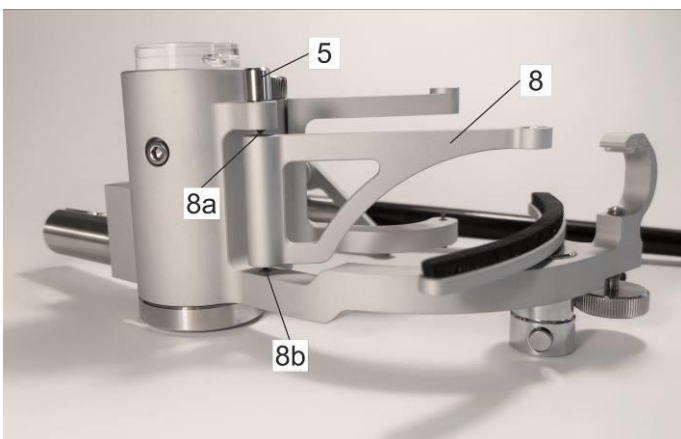

Figure 6
- h) Set the front link [8] on a bottom bearing of the front link vertical axis [8b] (Figure 6).
- i) Screw in the top bearing [5] of the front link [8] vertical axis and tighten it with your fingers without applying excessive force. **Needle of the bearing must be embedded in sapphire V cup.** (Figure 6).
- j) Check if the front link vertical axis bearings [8a] and [8b] are in correct positions (Figure 6).